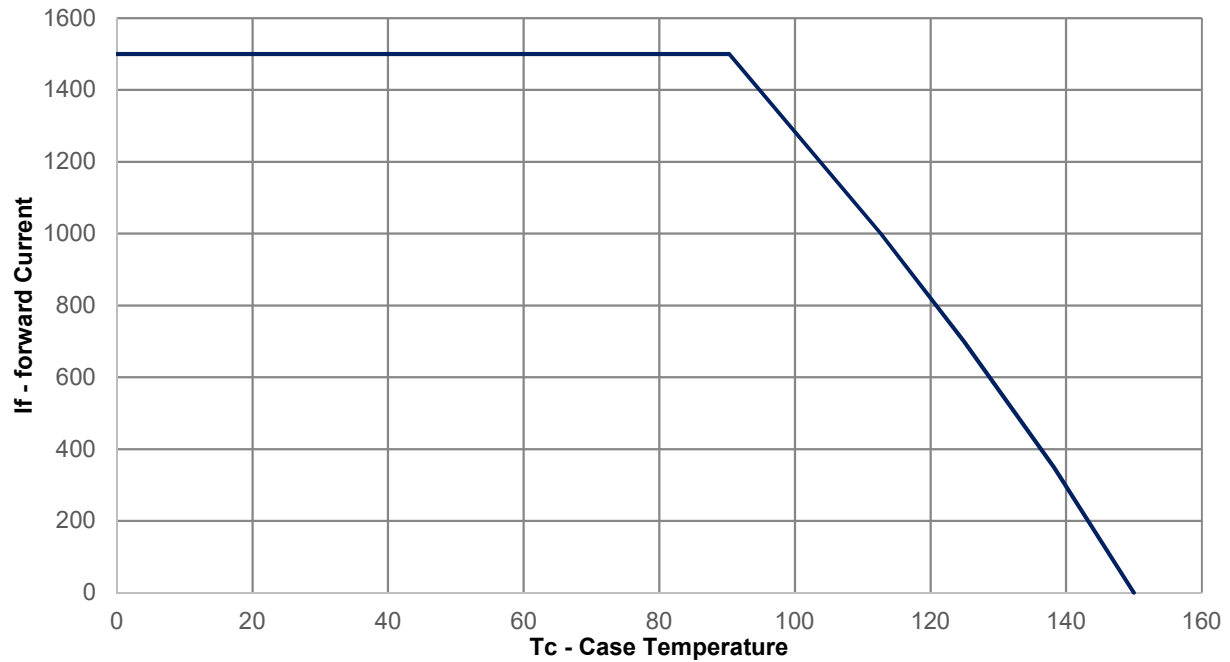

Figure 9: Maximum forward current vs. case temperature based on TJ(MAX) = 150°C
- Maximum DC forward current is determined by thermal resistance and case temperature. Follow Figure 9 for current derating.
Notes for Figure 9: